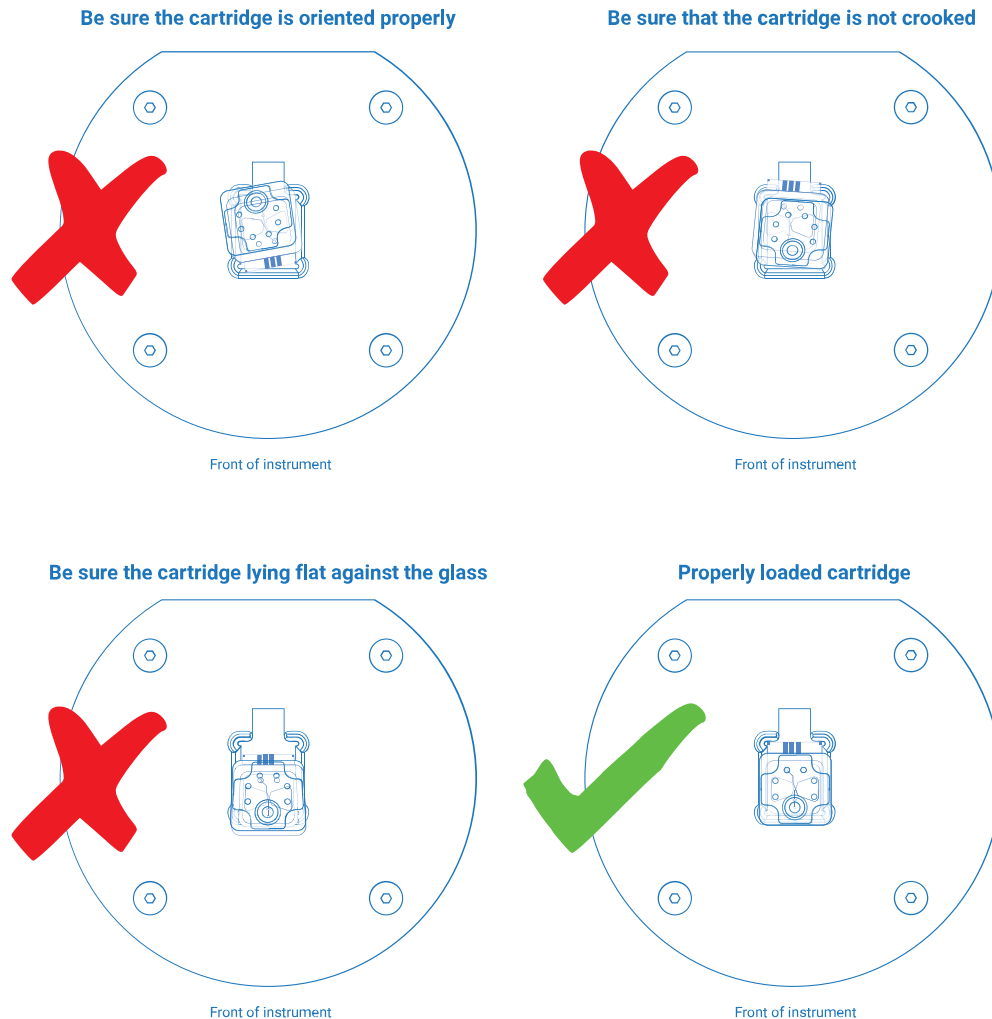

Figure 6. Guidelines for cartridge insertion.
(Figure 6). Return to the software and navigate to the “Instrument Prime” button at the bottom of the window. Start the Instrument Prime routine and wait for the process to complete.
- ❖ Be sure to load the cartridge correctly on the glass in the cartridge interface before lowering the hinge interface (see Figure 6 above).